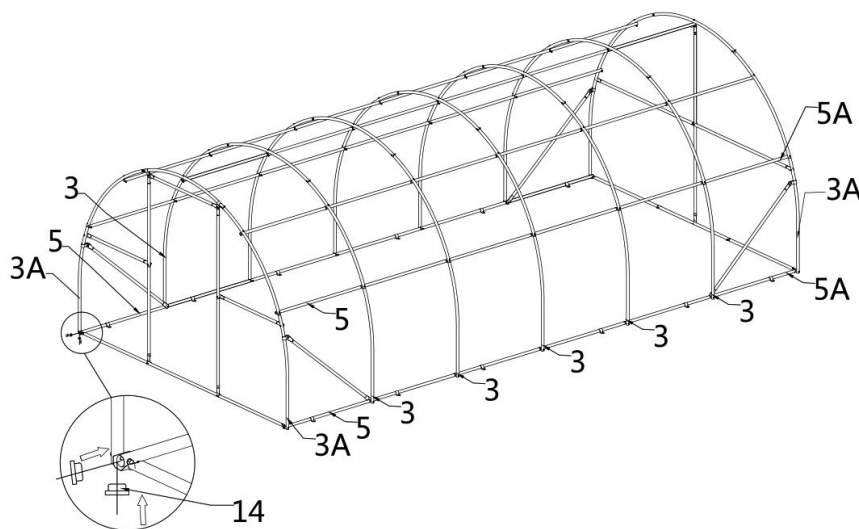

Figure 11
- The ends of rafters (#3A) and (#3) at the lower part of the truss, as well as the outer roof purlin (#5) and (#5A) at the front and rear truss, shall be provided with waterproof plugs. (refer to Figure 11)